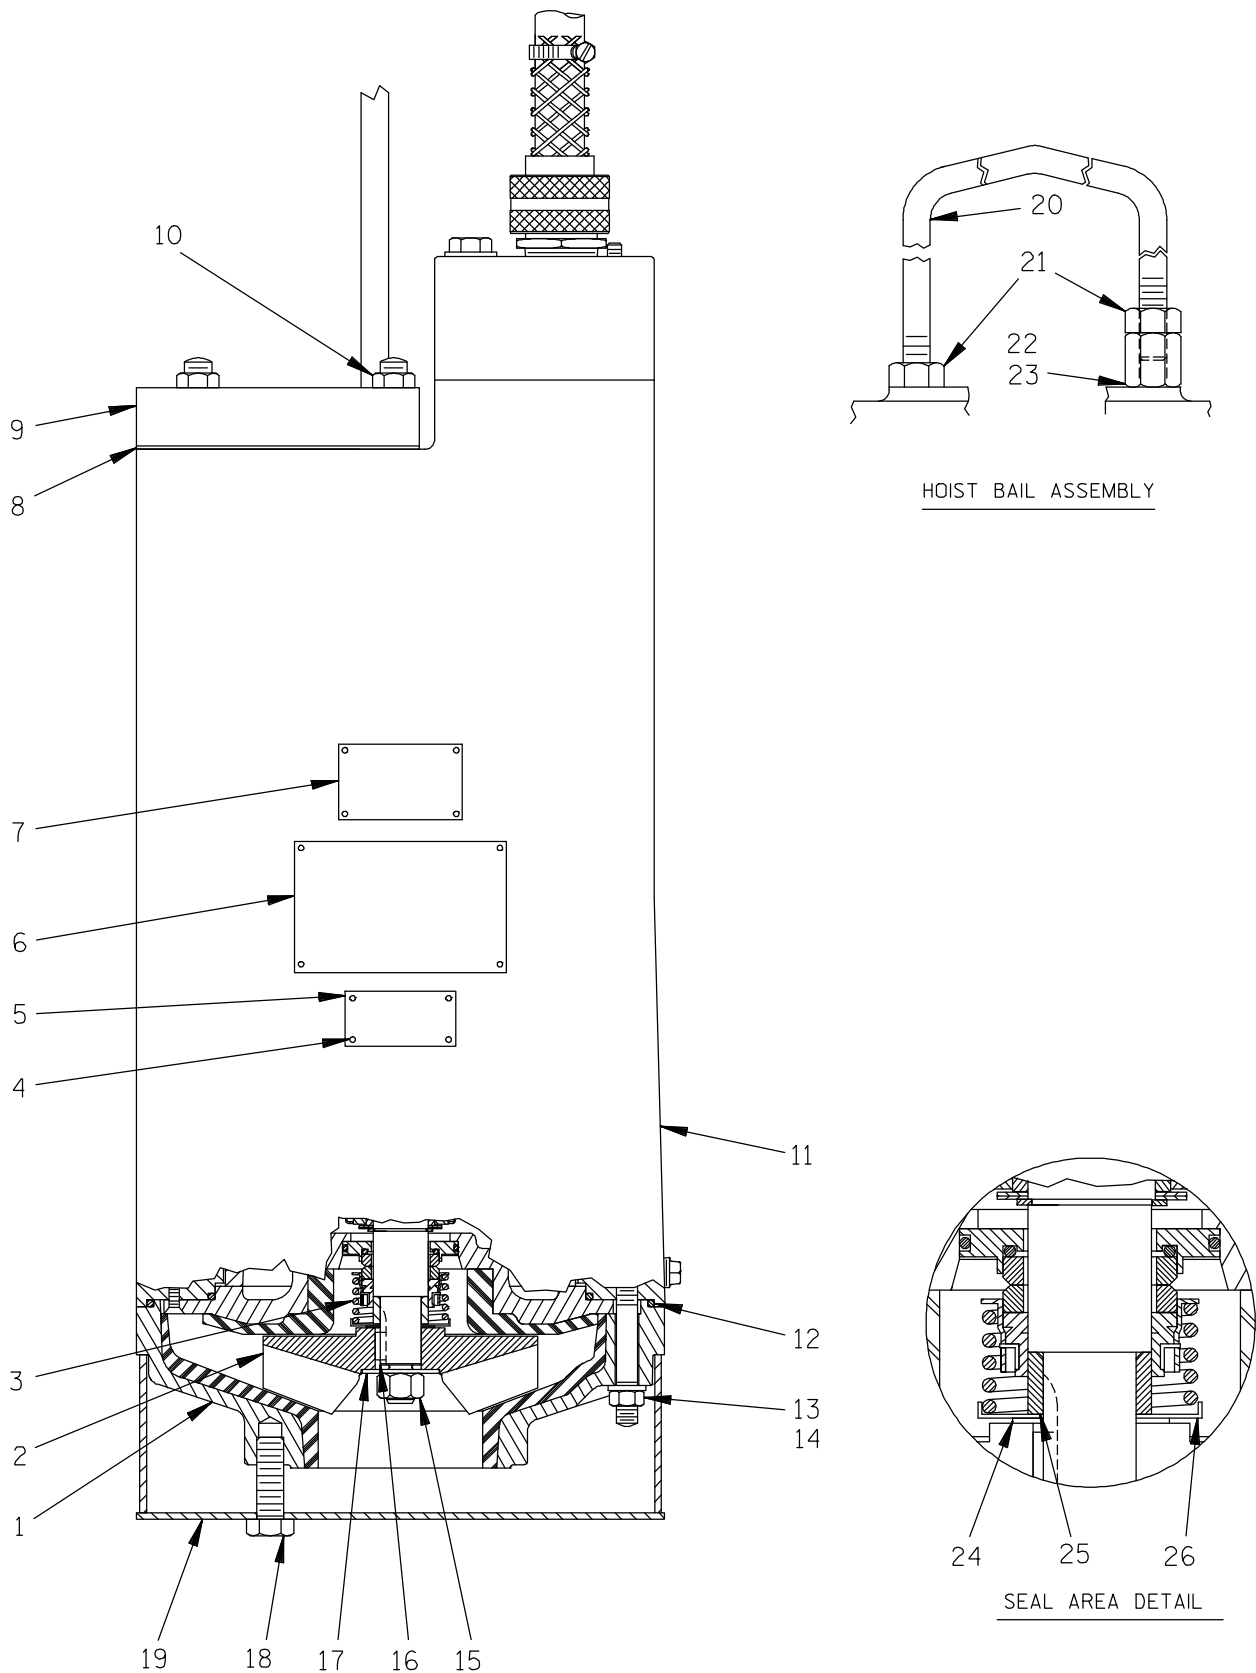
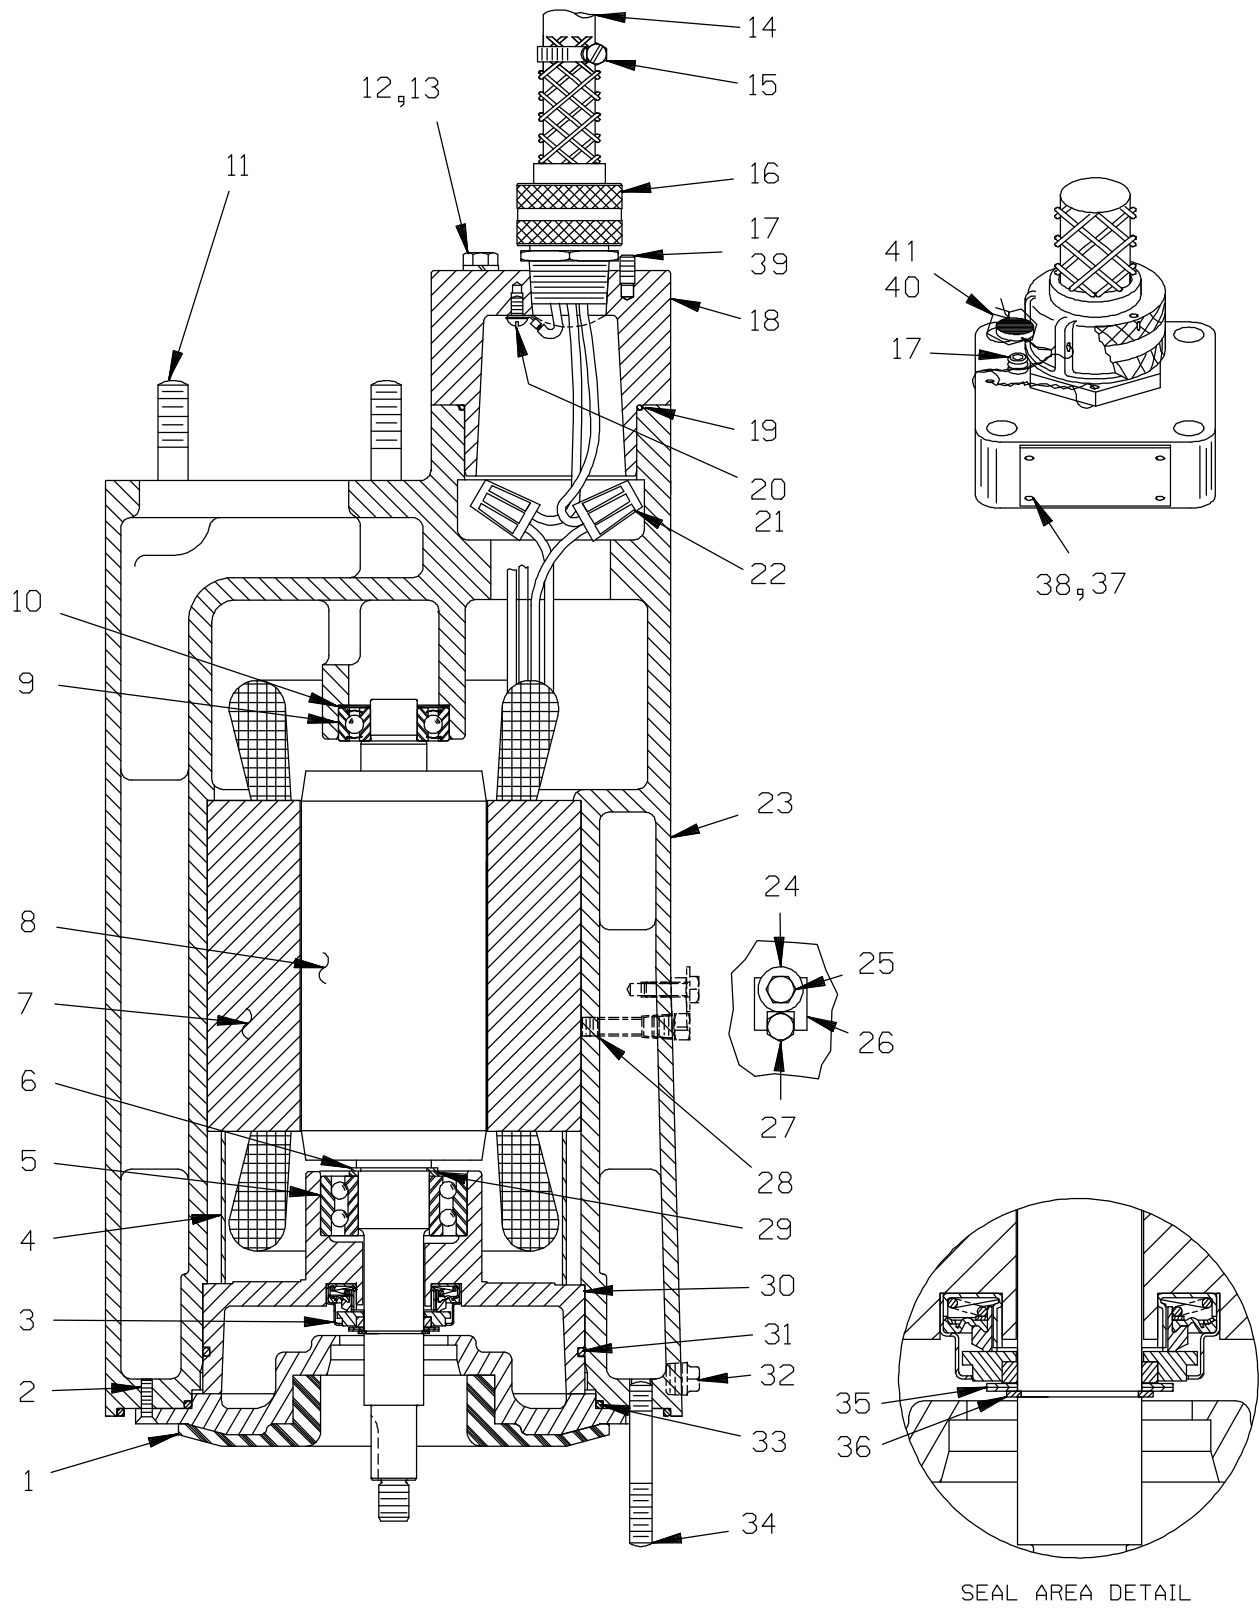

Figure C-1. Typical SM3B And SM3C Series Pump Assembly
Figure C-2. SM3B's And SM3C's Pump Motor Assembly
The maintenance and repair instructions in this manual are keyed to the sectional views, Figures C-1 and C-2, and the corresponding parts identification lists. Refer to the separate Parts List Manual for replacement parts.
References are to Figure C-1 and Figure C-2.
(Figure C-1)
(Figure C-2)
It is recommended that the pump be positioned upside-down during disassembly. To hold the pump in the inverted position, screw a pipe in the discharge flange (9) and clamp it in a large vise. Be careful not to damage the terminal housing and cable assembly (18 and 14, Figure C-2) while in this position. Use adequate equipment and personnel to safely handle the pump until it is secured. If inverting the pump is not practical, lay the pump on its side and secure it to prevent rolling.
Wedge a piece of wood between the vanes of the impeller (2) and the motor housing studs (34, Figure C-2). Remove the impeller nut (15) and washer (17).
Remove the wood and pry the impeller off the shaft using two screwdrivers. Use caution when removing the impeller; tension on the seal spring will be released. Retain the impeller key (16). The seal plate (30, Figure C-2) will become a free part.
(Figures C-2 and C-3)